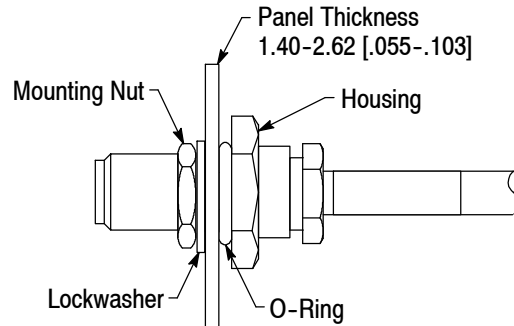

Figure 6
1. Cut the panel using the dimensions provided in Figure 6.
2. Install the O-ring onto the front of the housing. Insert the housing through the panel cutout until the O-ring is flat against the panel. Install the lockwasher and mounting nut onto the front of the housing. Tighten the mounting nut. Refer to Figure 6.